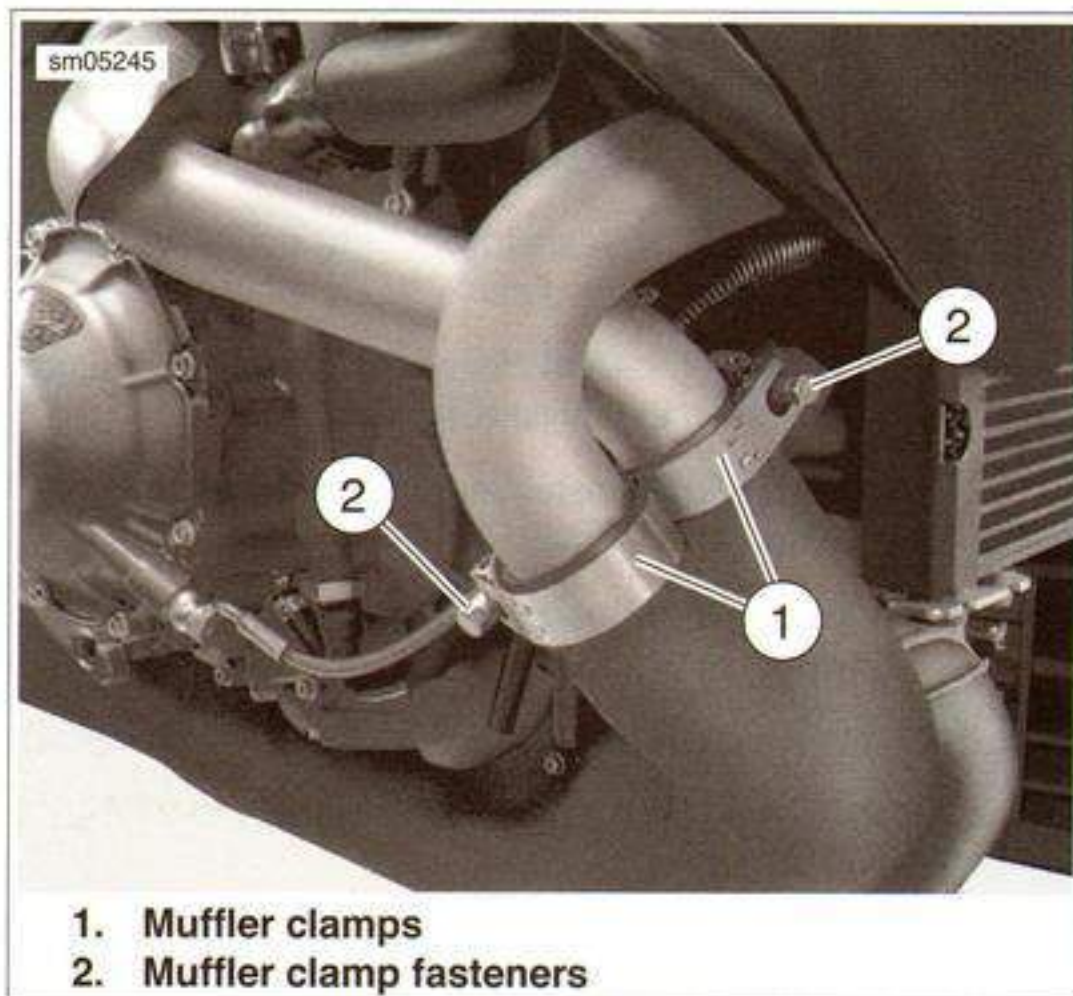

Figure 3-15. Muffler Clamps
3. See Figure 3-15. Loosen muffler clamps (2).